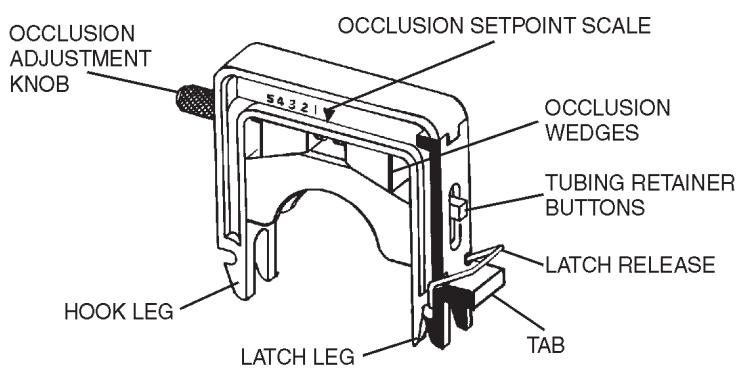

FIGURE 5 CARTRIDGE ASSEMBLY
1. Turn the Occlusion Adjustment Knob (see Figure 5) counterclockwise to maximum open. This step is not necessary when the occlusion is set at the factory setting or if the occlusion has already been set appropriately during previous pumping.
5. Swing the Cartridge with the tubing over the rotor and push down on the Tab (see Figure 5) until the Latch snaps closed (see Figure 7E). **Note:** Depress the Cartridge as required in the location indicated in Figure 7E to facilitate latching and unlatching.
2. Push down on latch side of Cartridge (see Figure 7E) and pull Latch Leg outward to unhook from rod. The Latch Release (see Figure 5) can be depressed to aid in this process as desired.